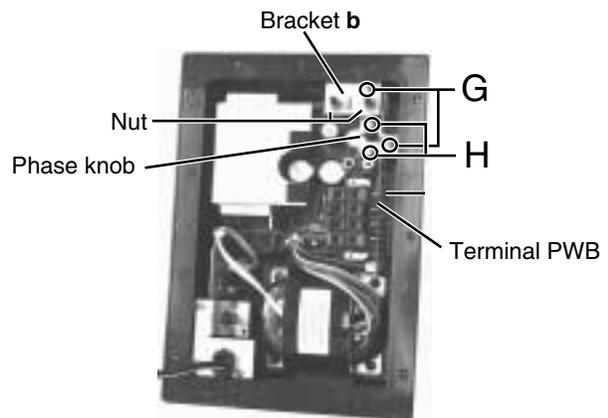

Fig.11
■ Removing the terminal PWB (See Fig.11 and 12)